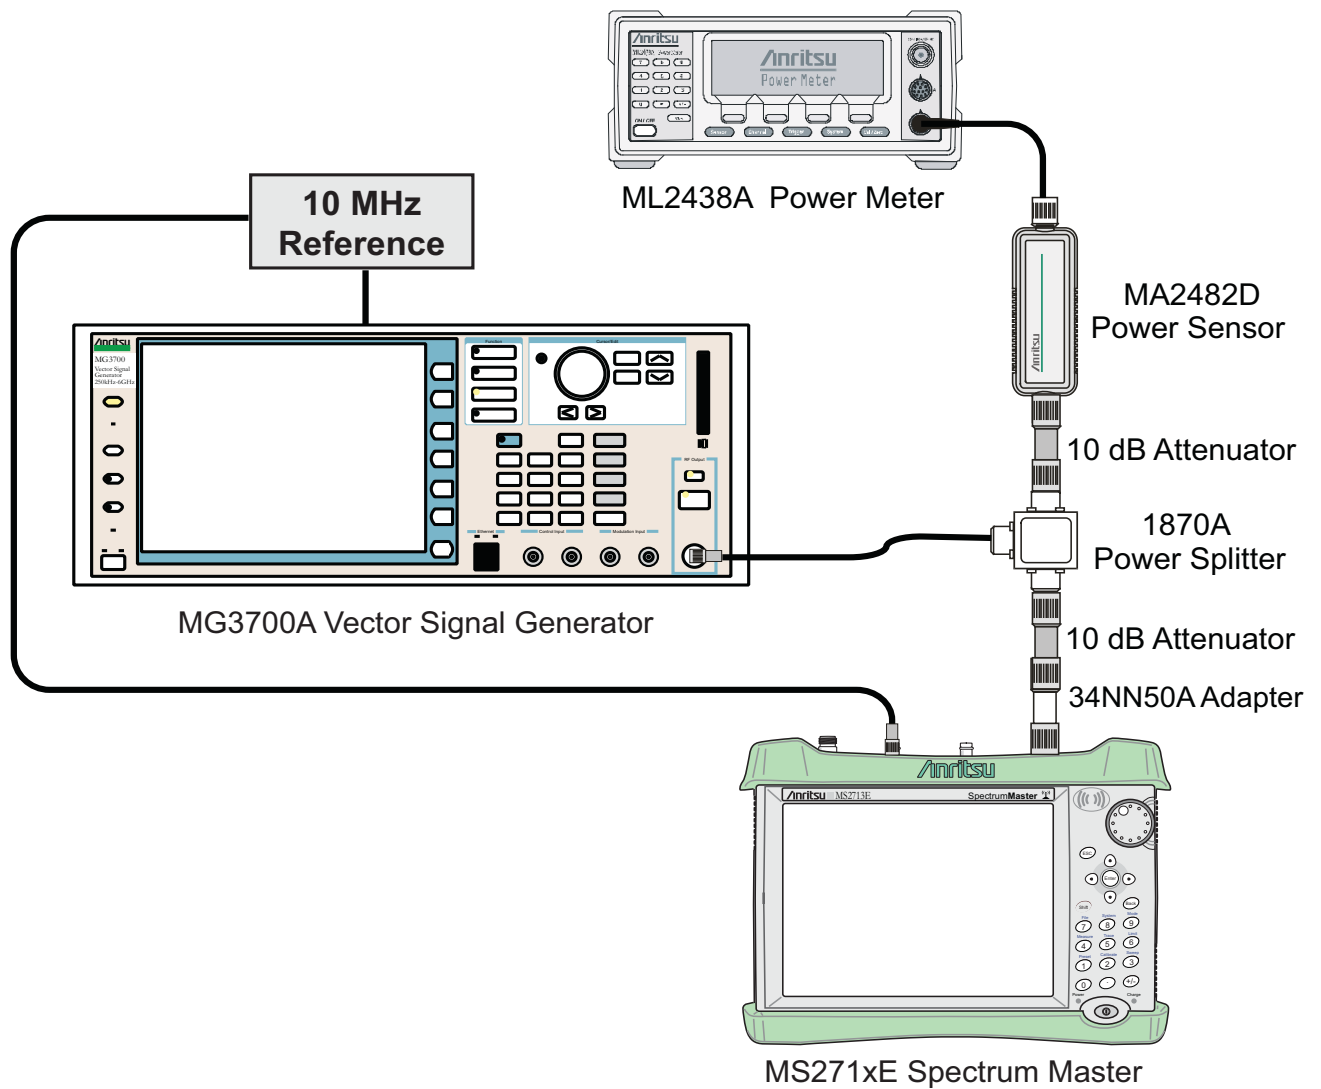

Figure 3-24. TD-LTE Signal Analyzer Option Verification
4. Connect the equipment as shown in Figure 3-24.
4. Connect the equipment as shown in Figure 3-24 on page 3-93.